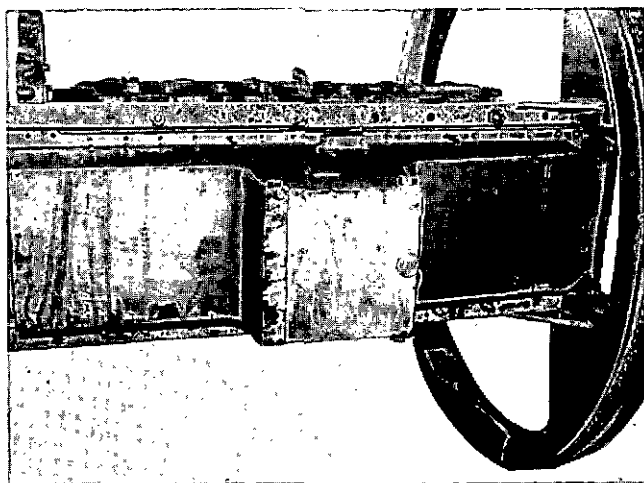

Fig. 0-39, V40072. Removing oil pan
2. Separate oil pan from block assembly and discard gasket. Fig. 0-39.